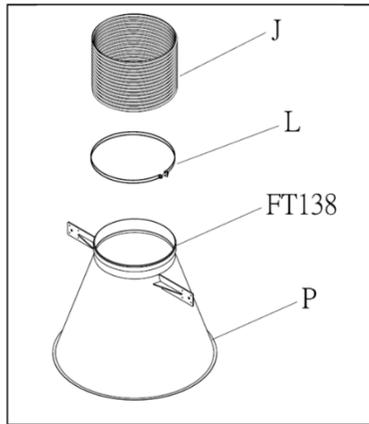

Figure 5-6
9. Turn cone (P) upside down. See Figure 5-6.
10. Paste 1Wx38L inch foam tape (FT138) around bottom lip of cone (P). Trim excess.
11. Work the hose (J) onto the cone (P), and secure with clamp (L).